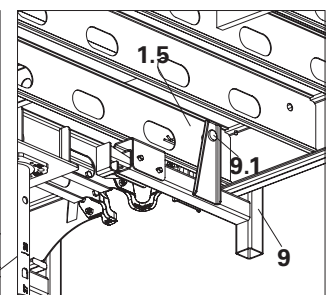

Fig. A9.04a
- Place the Guardrail holder (9) into the hole provided on the cross strut C (1.5) of the panel. (Fig. A9.04a)